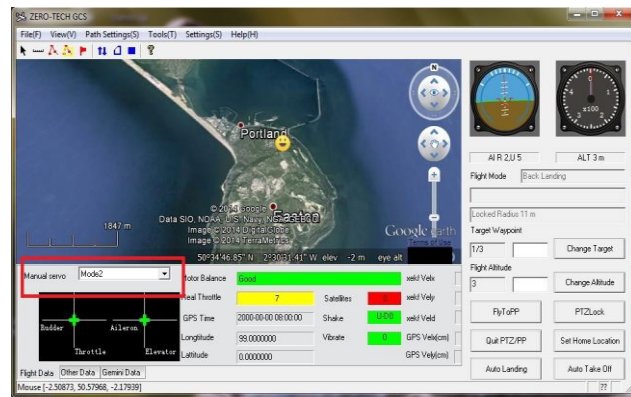

Figure 27
- b) Select your TX stick mode from the pull-down menu, as shown in Figure 27. (Mode 2 – American standard is shown)